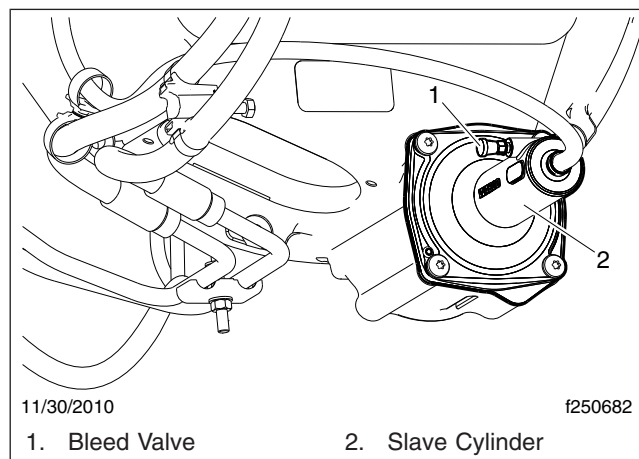

Fig. 5, Slave Cylinder, Hydraulic Clutch Control
- 4.2 Remove the cap from the bleed valve of the slave cylinder. See Fig. 5. On the valve, install a transparent drain hose connected to a catch bottle. The hose needs to fit the bleed valve tight enough
3. Remove the cap from the bleed valve of the slave cylinder. See Fig. 5. On the valve, install a